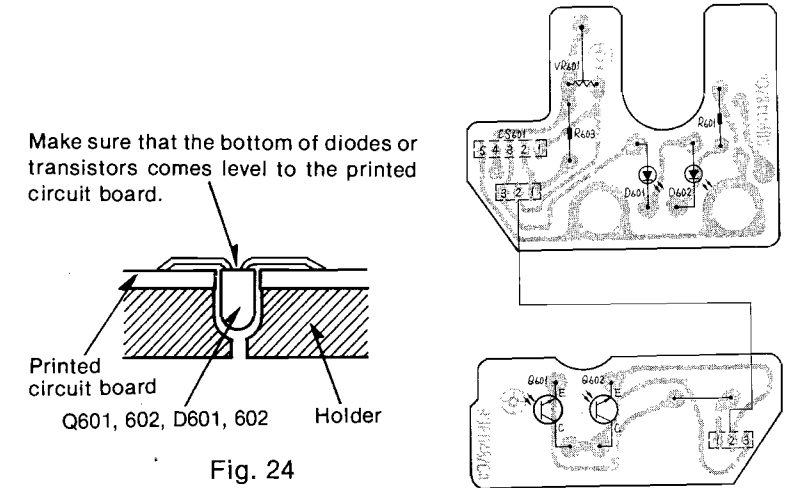

Fig. 24
■ TUNING BLOCK ALIGNMENT **Note:** When inserting the diodes (D601, 602) or transistors (Q601, 602), refer to fig. 24.
02), refer to fig. 24.